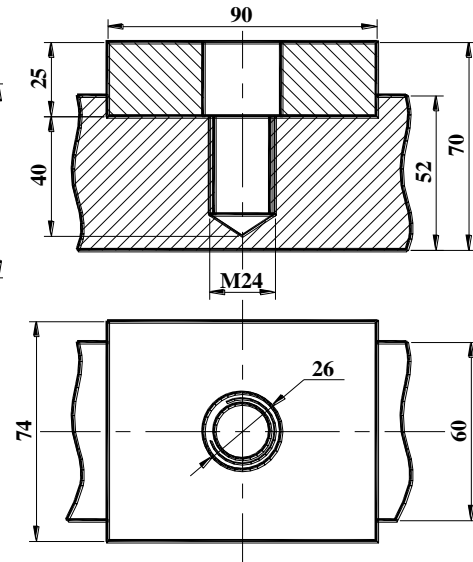

FIGURE T6.3
3. 3. DRAW A STUD JOINT TO CONVENTIONAL RATIOS FOR THE PIECES SHOWN IN *FIGURE T6.3*.